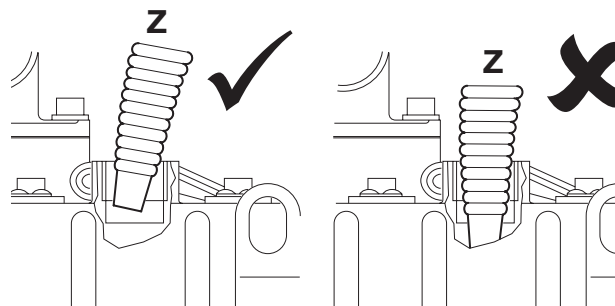

Fig 81.
DO NOT insert the container neck Z completely into the filler hole. → Fig 81. (□ 227). Allow oil to flow down from the remote filler to the crankcase.
- 3 Fill the engine with new oil **slowly** through the filler. DO NOT insert the container neck **Z** completely into the filler hole. ⇒ Fig 81. \(□ 227\). Allow oil to flow down from the filler to the crankcase. Replace filler cap securely. Use only the recommended oil. ⇒ Fluids, Lubricants and Capacities \(□ 183\)